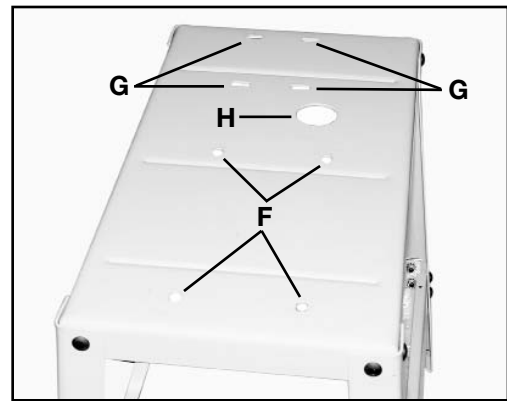

Fig. 2
The top view of the shelf (Fig. 2) illustrates the 4 holes (F) that are used to mount the saw to the stand, and the 4 holes (G) that are used to mount the motor to the stand. The power cord and the motor-to-switch cord pass through the large hole (H) so that they are down and out of the way.